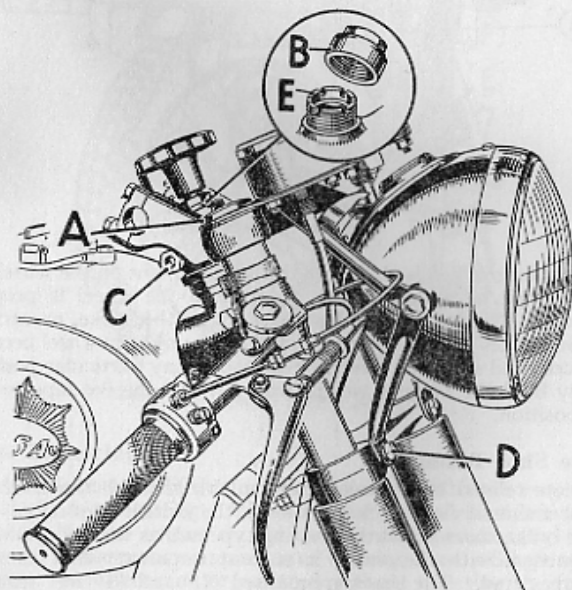

Fig. 18. Steering Head Adjustment.
Remove the plug (A) Fig. 18, and the drain screw in the lower end of the fork sliding member.
Unscrew the steering damper and remove the chromium-plated top cap (B) Fig. 18. Slacken the clamping nut (C), then tighten down the sleeve (E) until the adjustment is correct. Hold the handlebars lightly and move them round slowly. The steering should be free, and the forks must rotate smoothly. If the movement is "lumpy" it is a sign that the adjustment is too tight, or that the ballraces are damaged. When the adjustment is correct tighten the clamping nut (C), replace the cap (B) and the steering damper.